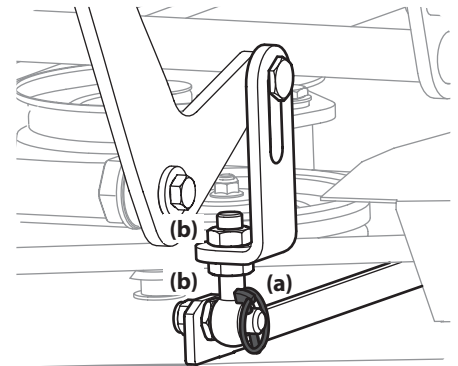

Figure 44
3. Adjust the eyebolt (a) at the left front of the deck so that the blade-to-ground height at the right outside blade tip matches that of the left outside blade tip. This is done by loosening the jam nuts (b) on the eyebolt (a) and tightening the upper jam nut (b) to raise the deck and loosening the jam nut (b) to lower the deck. The right outer blade tip height is fixed by the right, front eyebolt (a) so you must adjust the left outer tip to match it. See Figure 44.
4. Once the proper adjustment is made, re-tighten the jam nuts (b). See Figure 44.
3. Loosen the jam nuts (b) at the rear left and right of the deck eyebolts (a). Refer to Figure 44 on page 26.
4. Start at the rear right to raise the rear of the deck, tighten the upper jam nut (b) to raise the deck or loosen the upper jam nut (b) to lower the rear of the deck. Refer to Figure 44 on page 26.
5. Adjust the jam nut (b) at the rear left to take the "slack" out of the threaded rod. Refer to Figure 44 on page 26.
6. Tighten both lower jam nuts (b) to secure the deck adjustment. Refer to Figure 44 on page 26.
7. The final adjustment would be to take the "slack" out of the left rear linkage if the rear of the deck was raised by adjusting the jam nuts (b) on the eyebolt (a). Loosen the jam nuts (b) and tighten the upper jam nut (b) to remove "slack". Refer to Figure 44 on page 26.
8. In many cases it will be necessary to adjust deck height using both eyebolt (a) adjustments and pitch adjustment to achieve the correct blade-to-ground heights. If you remember that the front right blade tip adjustment is fixed and you level to that height, adjusting the decks will be simplified. Refer to Figure 44 on page 26.